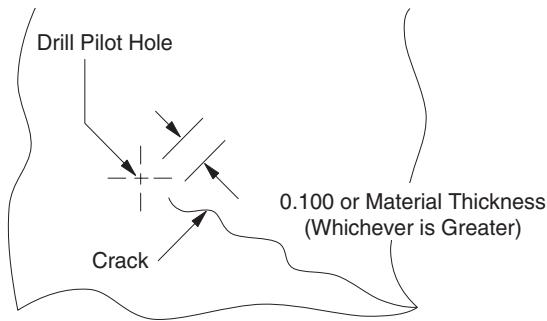

Figure 9-01 — Crack Length > 0.200"
9.2.3.1 For crack lengths greater than 0.200 inch, the center of the pilot hole shall be located either 0.100 inch, or one material thickness, ahead of the observed crack tip, whichever is greater. Ensure hole is within  $2^\circ$  of normal to the surface. See Fig. 9-01.